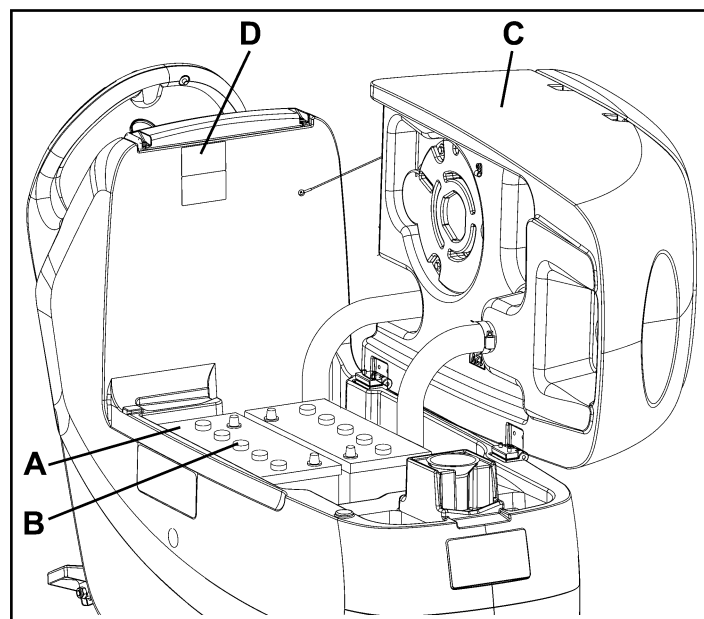
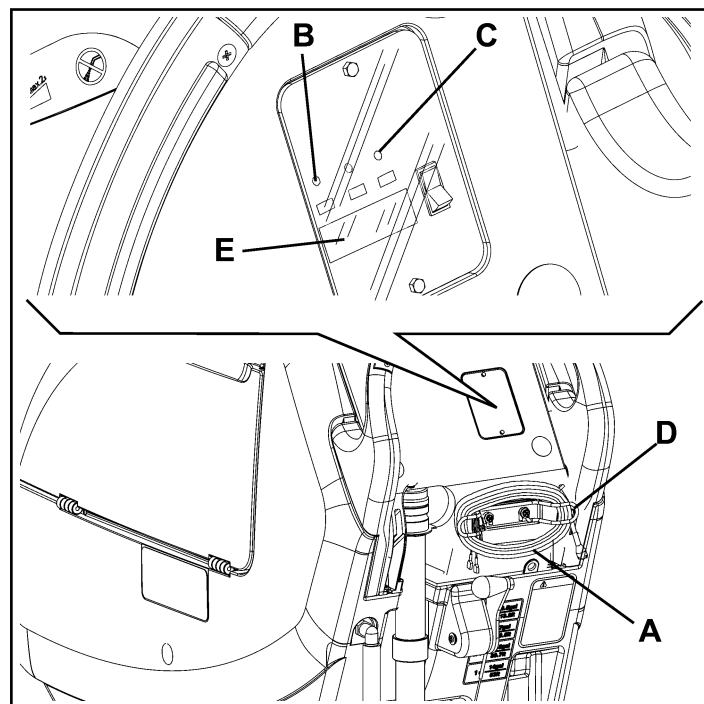

Figure 39
Figure 40
7. Connect the battery charger cable (A, Fig. 40) to the electrical mains (the electrical mains voltage and frequency must be compatible with the battery charger values shown on the machine serial number plate (D, Fig. 39). When the battery charger is connected to the electrical mains, all machine functions are automatically cut off. If the red warning light (B, Fig. 40) on the battery charger control panel stays on, the battery charger is charging the batteries.
8. When the green warning light (C) turns on, the battery charging is completed.
9. When the battery charging is completed, disconnect the battery charger cable (A) from the electrical mains and wind it round its housing (D).
10. Carefully lower the tank (D).
For further information about the operation of the battery charger (E, Fig. 40), see the relevant Manual.